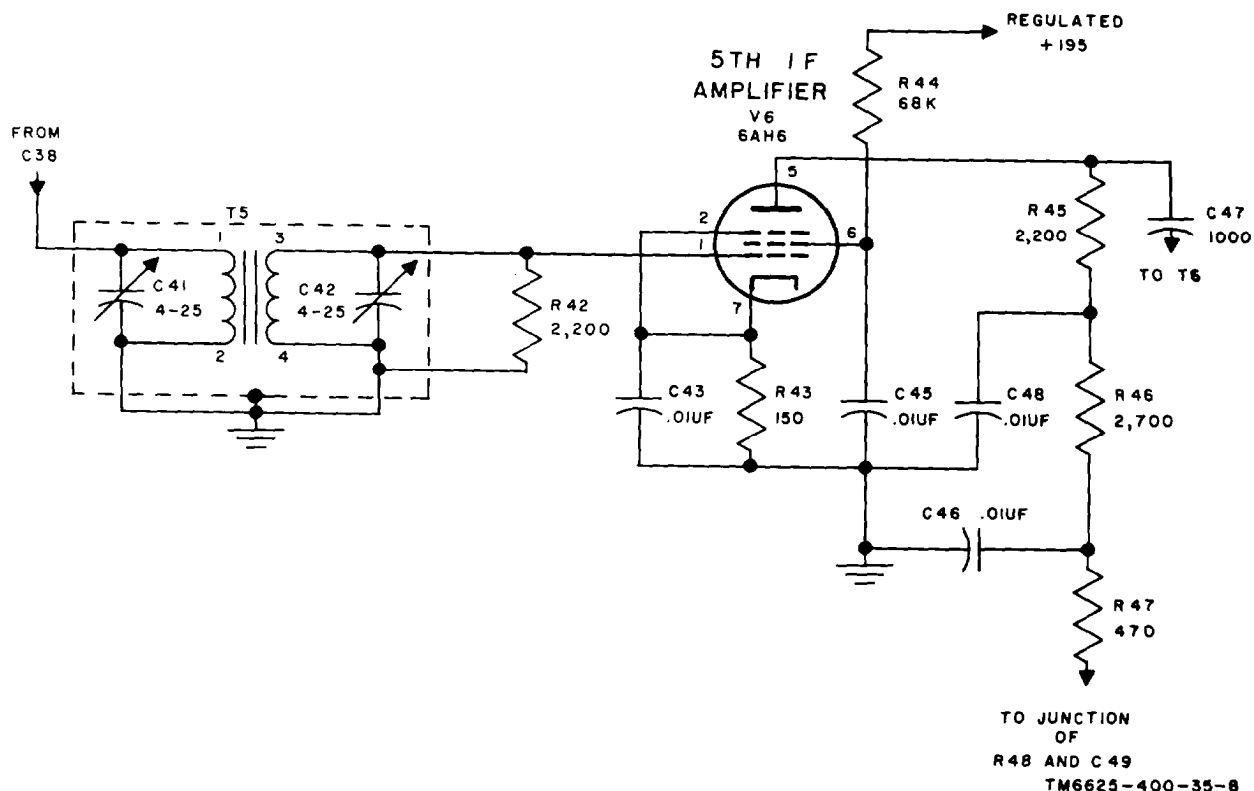

Figure 8. Fifth if. amplifier, schematic diagram.
e. Tube V6 (fig. 8) is the fifth if. amplifier. The signal input is coupled through T5 into the grid of V6. Capacitors C41 and C42 tune T5. Resistor R42 loads the secondary of T5 for wide bandpass, and also serves as the grid return for V6. Operating bias for V6 is obtained by the voltage drop across R43, which is bypassed by C43. No avc voltage appears on the grid of V6. The screen voltage-dropping resistor is R44. Capacitor C45 bypasses R44. Resistor R45 is the plate load for V6. Resistors R46 and R47 and capacitors C46 and C48 form the plate supply decoupling circuit. Capacitor C44 (fig. 32) is the filament bypass. The output of V6 is coupled through C47 to T6. Coil L17 (fig. 32) is the rf filament choke.